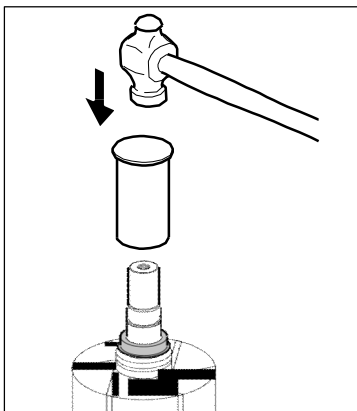

Figure 16 .Bearing inner location using a hollow dolly.
3. Quickly place the bearing inner over the rotor shaft & slide down to the rotor face. To locate the bearing inner properly use a hollow dolly. See Fig 16.